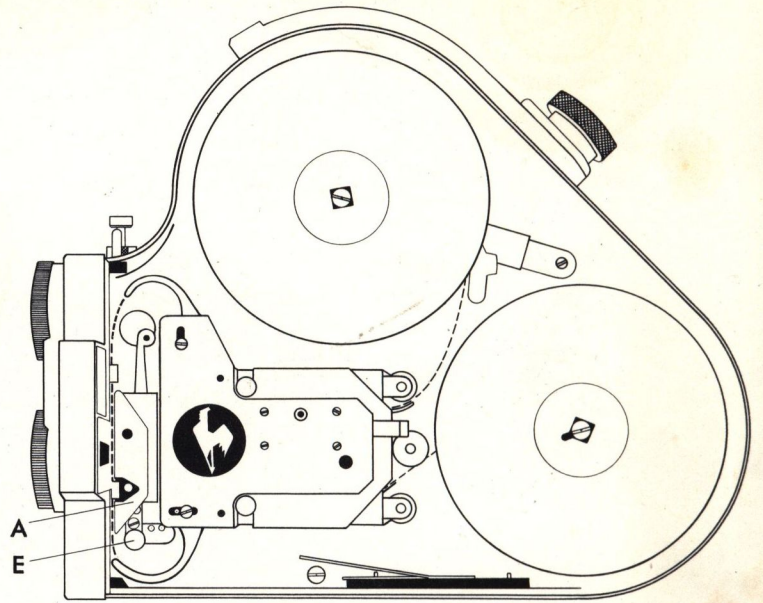

Fig. 1
2. Film gate must be closed and locked (see "A", figure 1).
4. Lift pressure plate knob "E" (figure 1) and open film gate.